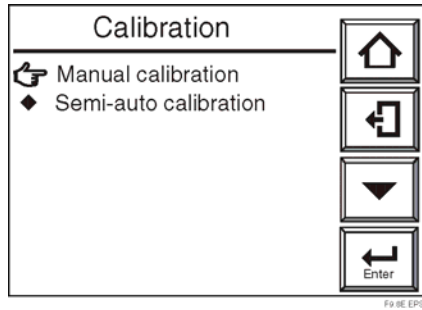

Figure 9-8 Calibration Display
1. Select the Setup key in the basic panel display screen. Then select Calibration from the Execution/Setup display screen. The Calibration display shown in Figure 9-8 appears.